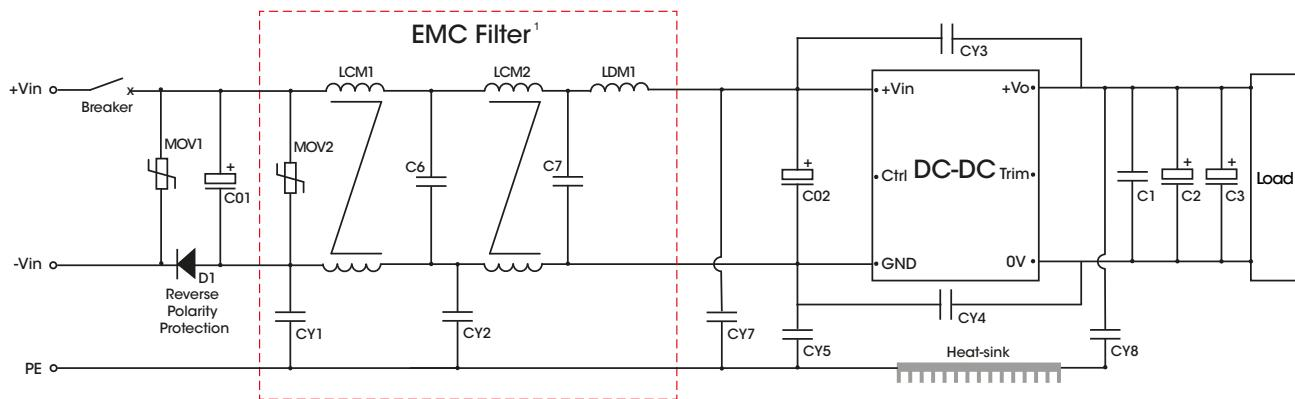
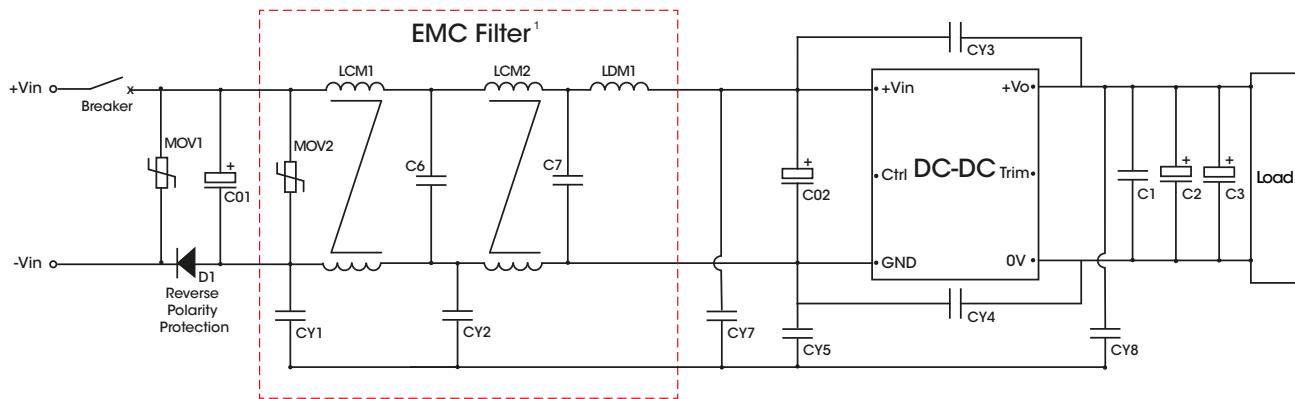

Figure 6. Recommended EMC Filtering with PE
Figure 7. Recommended EMC Filtering without PE
RE CISPR16-2-3 30 MHz – 230 MHz ; 40 dBuV/m at 10 m (see Fig. 6 for recommended circuit) 230 MHz – 6 GHz; 47 dBuV/m at 10 m (see Fig. 6 for recommended circuit)	CLASS A
Surge EN 61000-4-5 Line to line ±1 kV (42 Ω, 0.5 μF), line to ground ± 2 kV (42 Ω, 0.5 μF) (see Fig. 6 for recommended circuit) Line to line ±1 kV (2 Ω, 18 μF) line to ground ± 2kV (12 Ω, 9 μF) (see Fig. 6 for recommended circuit)	perf. Criteria A
RE CISPR16-2-3 30 MHz – 230 MHz; 40 dBuV/m at 10 m (see Fig. 6 for recommended circuit) 230 MHz – 1 GHz; 47 dBuV/m at 10 m (see Fig. 6 for recommended circuit)	CLASS A
Surge IEC 61000-4-5 Line to line ±2 kV (2 Ω, 18 μF); line to ground ± 2 kV (2 Ω, 18 μF) (see Fig. 6 for recommended circuit)	perf. Criteria A
MS IEC 61000-4-8 60 Hz; 100 A/m (see Fig. 6 for recommended circuit) IEC 61000-4-8 60 Hz; 300 A/m (see Fig. 6 for recommended circuit)	perf. Criteria A
2. EMC Filter will be provided in a modular form, here is a recommended circuit and parameters, as shown in Fig. 6 and Fig. 7. Users can also build it themselves.